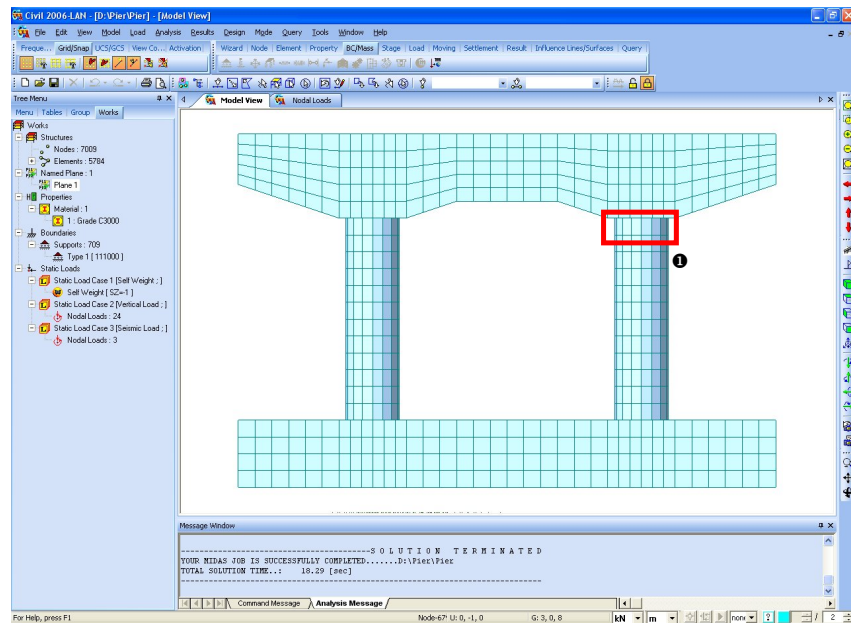

Figure 5.31 Structure with Defined UCS
1. Click **Select Window** to select the relevant elements (Fig.5.31-①).